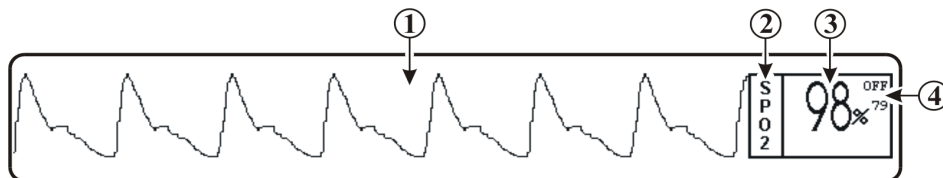

Figure 4-13. The SpO2 Display
4.5.1 Associated Waveforms and Displays. (See **Figure 4-13**) SpO2 information is displayed as a waveform in Trace location B and as numeric data in Box 2. The following is a description of the items contained within the SpO2 Display: